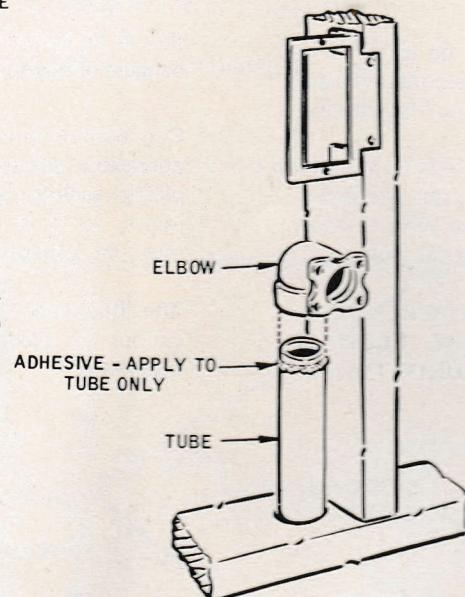

FIGURE 10 – MOUNTING ELBOW TO TUBING
- Put rigid tubing through hole in plate and connect elbow to tubing using adhesive to seal the joint (Figure 10).